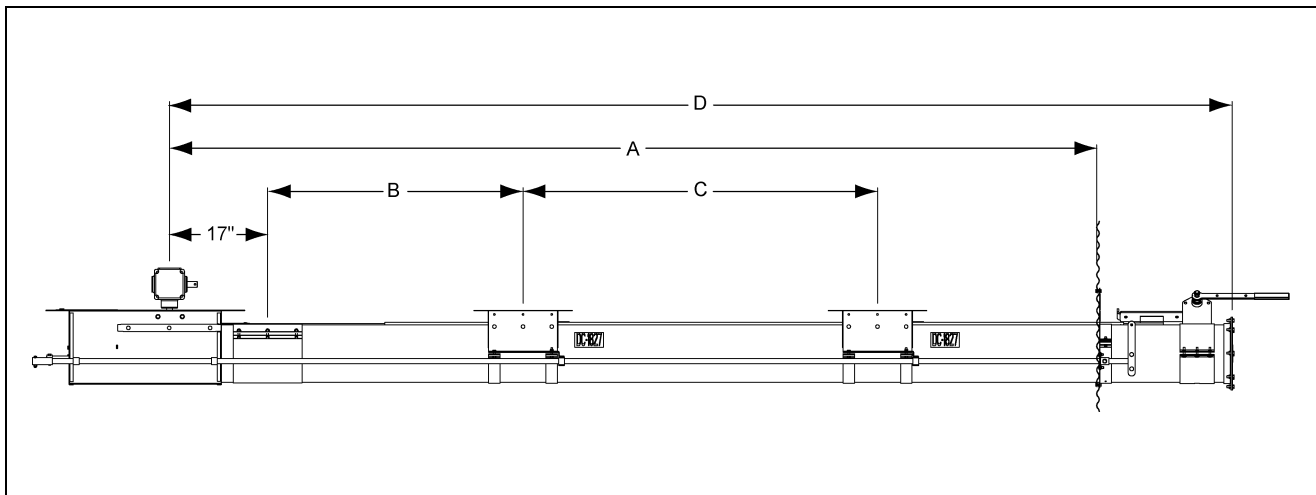

Figure 4D
1. Cut openings in the bin floor for the intermediate wells. See Figure 4B and Figure 4C. The number of wells depends on bin size. The distances between intermediate wells and the center well should be equal. See Figure 4D and Chart below.